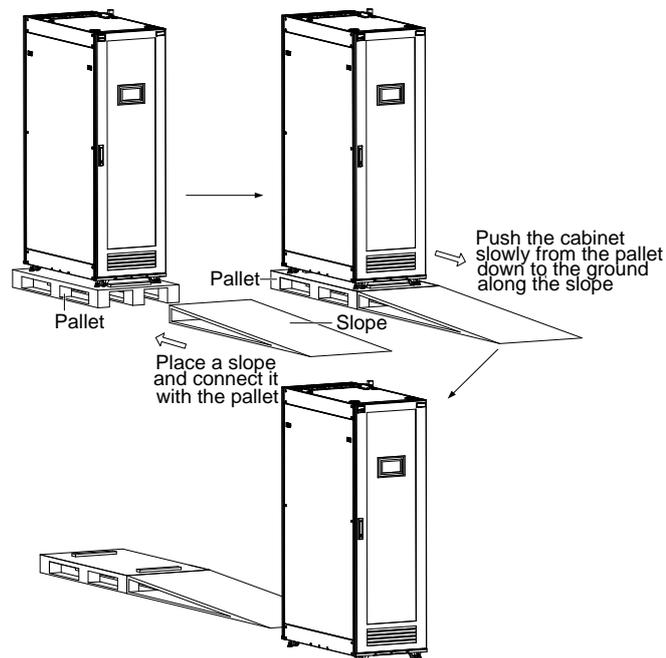

Figure 2-9 Removing the pallet
- 2) Place a slope in front of the front or rear door, and connect it with the pallet, as shown in Figure 2-9.